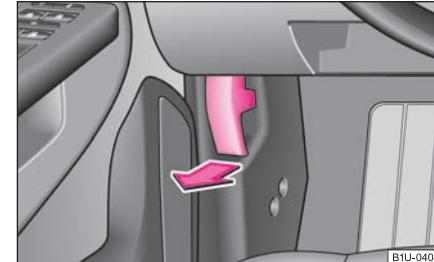

Fig. 14 Bonnet release lever
- Pull the unlocking lever below the dash panel on the driver's side \Rightarrow fig. 14.